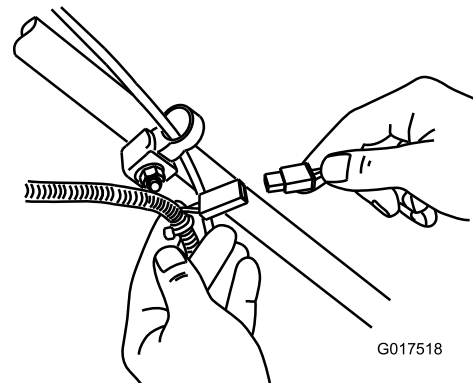

Figure 35
1. Connect the charger to the wire harness located below the ignition key (Figure 35).